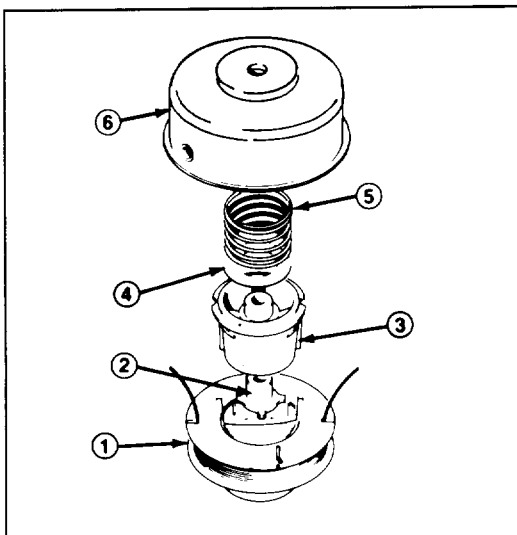

Figure 21
2. Insert medium blade screwdriver in one of two windows slots on spool hub and twist screwdriver 1/4 turn (Fig. 21). Spool will snap off.